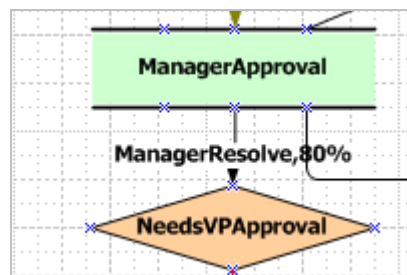

Figure 3-26. Visio Updates
- c. Click the red square connected to the UpdateStatusCompleted Utility shape and drag the arrow head of the connector to the top of the NeedsVPApproval decision shape (Figure 3-26). If the ManagerResolve label does not appear, pull the decision shape down to reveal it.